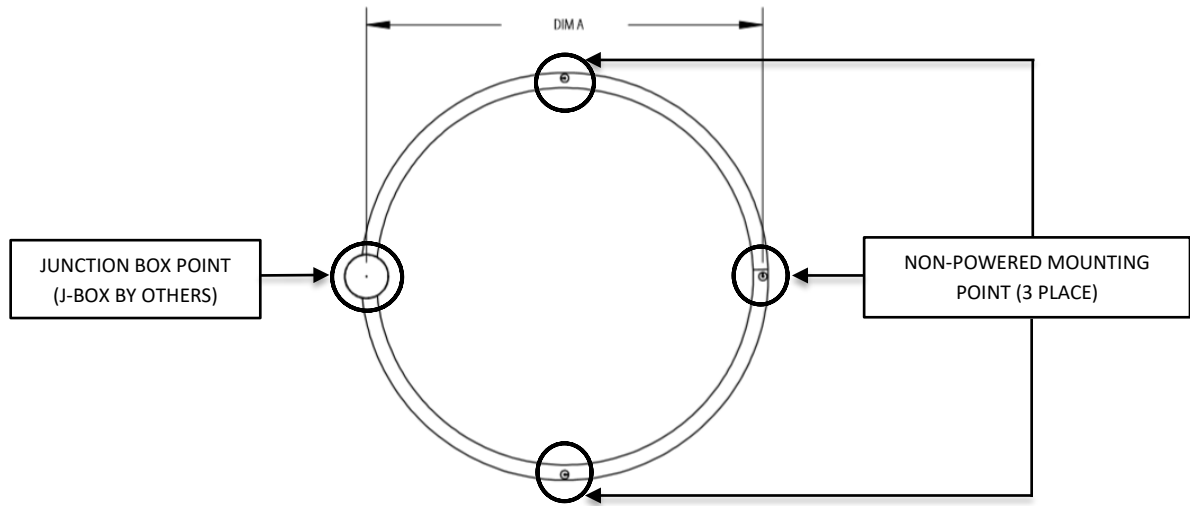

FIG. 15 - TOP VIEW SHOWING MOUNTING VIEW INFORMATION
1. Mark location for the NON-POWERED MOUNTING POINT according to the MOUNTING INFORMATION TABLE and FIG. 15.